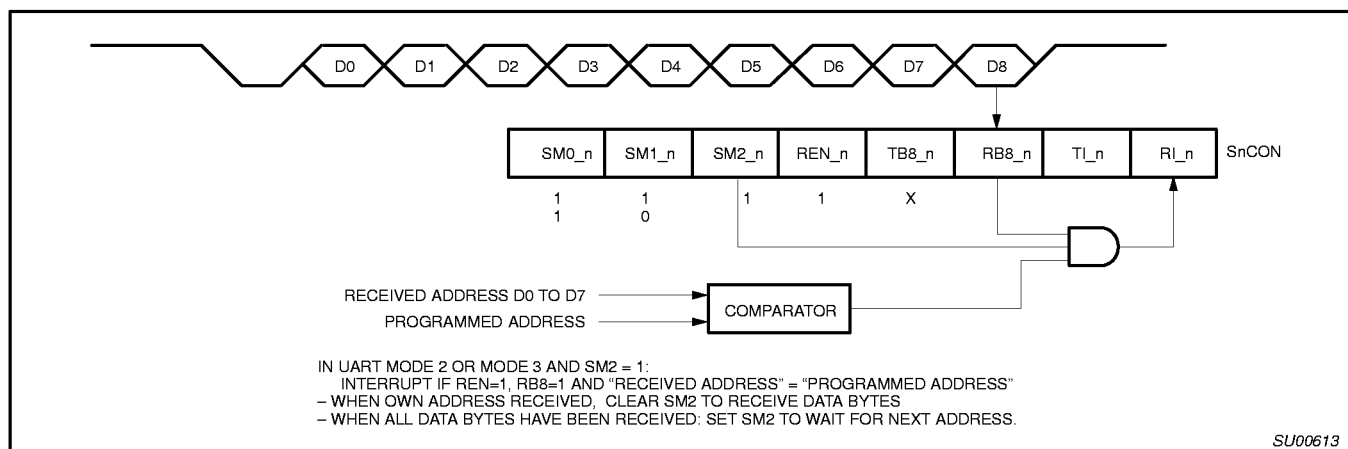

Figure 14. UART Multiprocessor Communication, Automatic Address Recognition
Automatic Address Recognition is a feature which allows the UART to recognize certain addresses in the serial bit stream by using hardware to make the comparisons. This feature saves a great deal of software overhead by eliminating the need for the software to examine every serial address which passes by the serial port. This feature is enabled by setting the SM2 bit in SCON. In the 9 bit UART modes, mode 2 and mode 3, the Receive Interrupt flag (RI) will be automatically set when the received byte contains either the "Given" address or the "Broadcast" address. The 9 bit mode requires that the 9th information bit is a 1 to indicate that the received information is an address and not data. Automatic address recognition is shown in Figure 14.